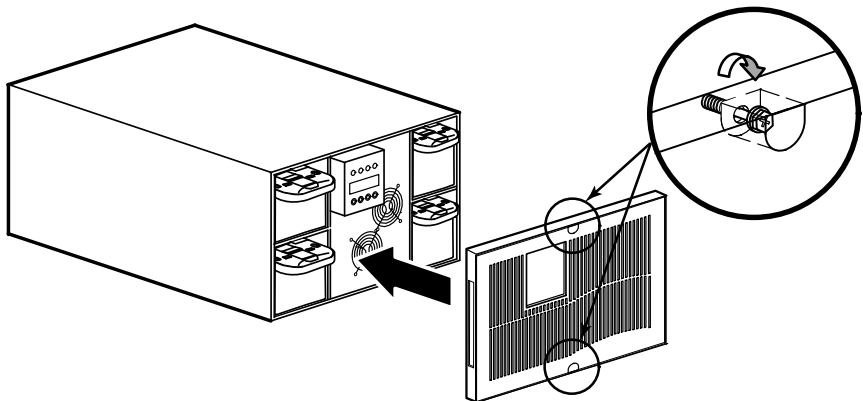

Figure 25. Replacing the UPS Front Cover
3. Replace the UPS front cover and tighten the two front cover screws (see Figure 25).